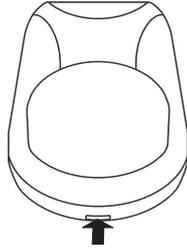

Figure 3
9.1 Open the case cover by releasing the latch with a screwdriver (figure 3).